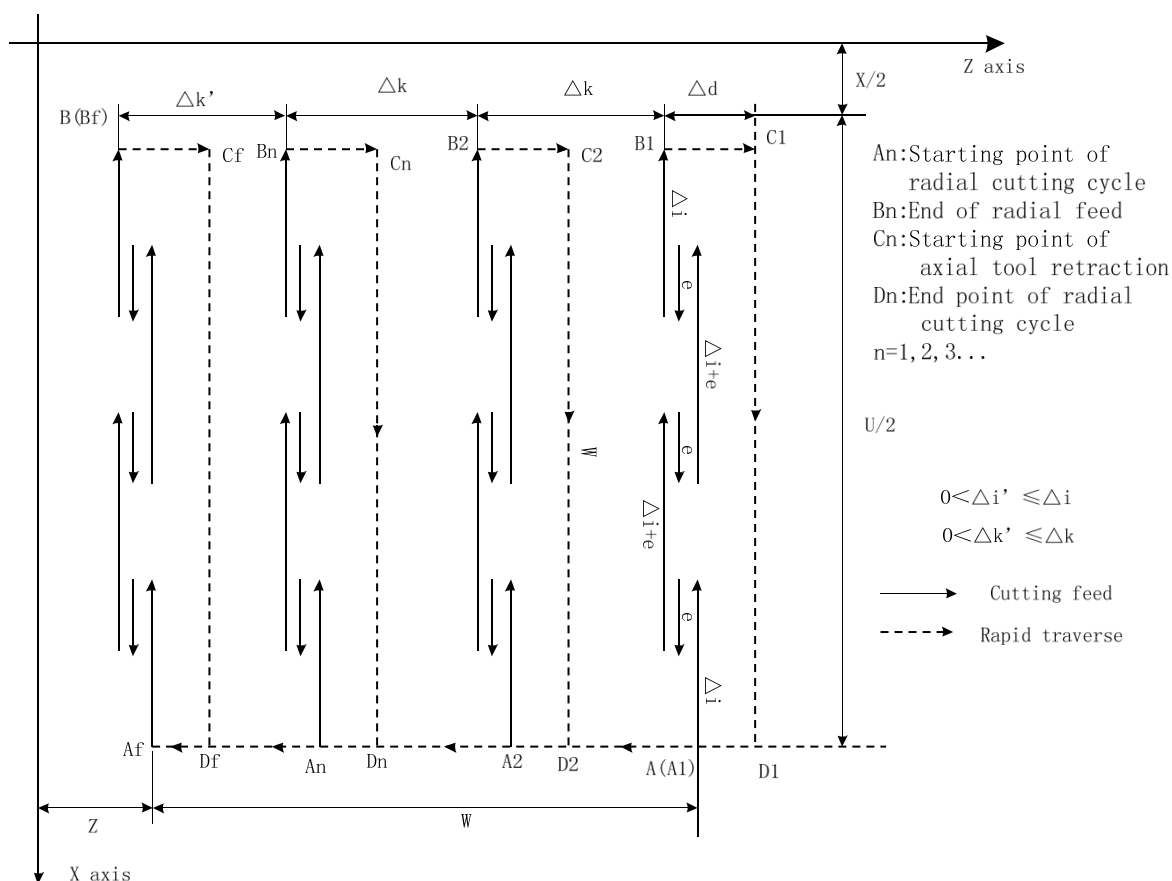
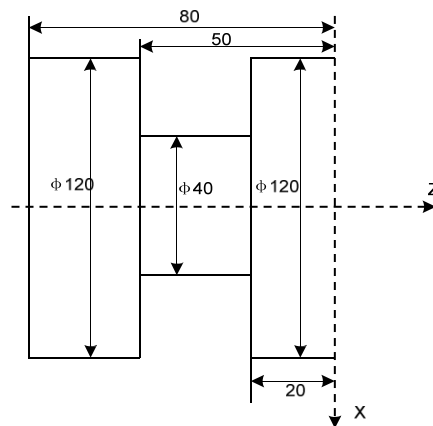

Fig. 3-36 G75 path
Fig. 3-37 G75 cutting
**Execution process:** (Fig. 3-36)
- ① Radial (X) cutting feed  $\Delta i$  from the starting point of radial cutting cycle, feed in X negative direction when the coordinates of cutting end point is less than that of starting point in X direction, otherwise, feed in X positive direction;
- ② Radial(X) rapid tool retraction  $e$  and its direction is opposite to the feed direction of ①;
- ③ X executes the cutting feed  $(\Delta k + e)$  again, the end point of cutting feed is still in it between starting point  $A_n$  of radial cutting cycle and end point of radial tool infeed, X executes the cutting feed  $(\Delta i + e)$  again and executes ②; after X cutting feed  $(\Delta i + e)$  is executed again, the end point of X cutting feed is on  $B_n$  or is not on it between  $A_n$  and  $B_n$  cutting feed to  $B_n$  and then execute ④;
- ④ Axial(Z) rapid tool retraction  $\Delta d$  (radius value) to  $C_n$ , when Z coordinate of  $B_f$  (cutting end point) is less than that of A (starting point), retract tool in Z positive, otherwise, retract tool in Z negative direction;
- ⑤ Radial (Z) rapid retract tool to  $D_n$ , No. n radial cutting cycle is completed. The current radial cutting cycle is not the last one, execute ⑥; if it is the previous one before the last radial cutting cycle, execute ⑦;
- ⑥ Axial(X) rapid tool infeed, and its direction is opposite to ④ retract tool. If the end point of tool infeed is still on it between A and  $A_f$  (starting point of last radial cutting cycle) after Z tool infeed  $(\Delta d + \Delta k)$  (radius value), i.e.  $D_n \rightarrow A_{n+1}$  and then execute ① (start the next radial cutting cycle); if the end point of tool infeed is not on it between  $D_n$  and  $A_f$  after Z tool infeed  $(\Delta d + \Delta k)$ , rapidly traverse to  $A_f$  and execute ① to start the first radial cutting cycle;
- ⑦ Z rapidly traverses to A, and G75 is completed.
- $\Delta$ d and e are specified by the same address R and whether there are X(U) and P( $\Delta$ i) words or not in blocks to distinguish them;
**Example :** Fig.3-37